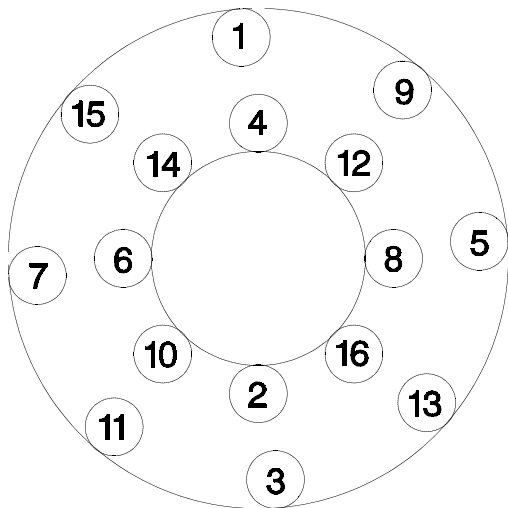

Figure 17
- 4.6.8 For each wear plate being replaced, follow the tightening sequence shown in Figure 17 for the first 16 screws. The remaining screws may be tightened in any reasonable crosswise pattern. See Table 11 for tightening torque values.
4.9.11 Install the new seals in the grooves in the piston, noting the orientation of the seal lips. See Figure 17.